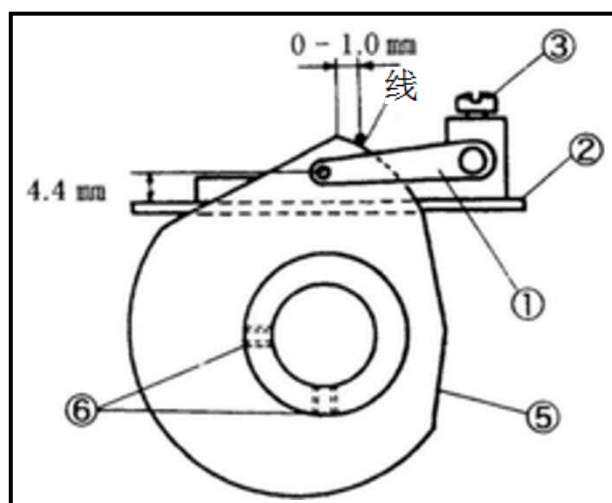
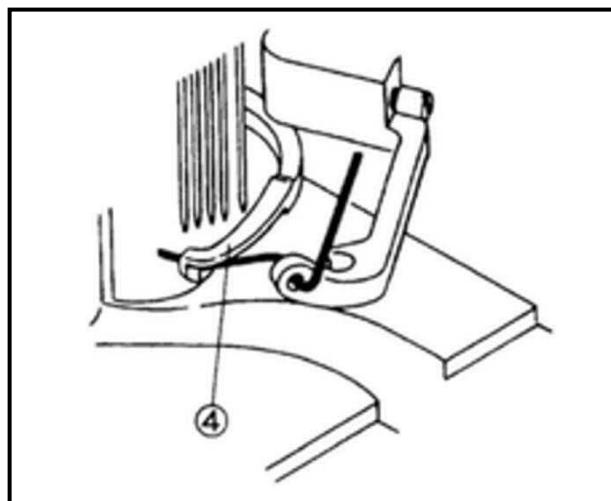

Fig.44
Fig.45
螺钉③再上下调整移动线孔。(Fig.44)
当大的喂针④勾到小喂针上的线时(Fig.45), 喂针线和凸轮的尖端的距离为 0-1.0mm 之间, 调整凸轮⑤时松开螺钉⑥。(Fig.44)
The moment the top cover thread is hooked with the top cover thread hook④ (Fig. 45), the thread is held at the point 0-1.0 mm apart from the top of the take-up⑤. Loosen the screws⑥ to adjust it. (Fig.44)